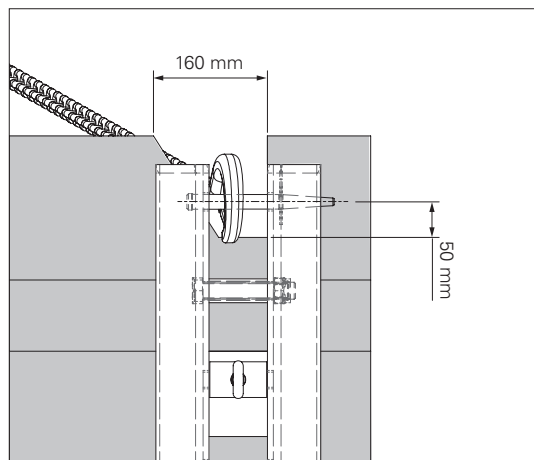

Fig. C4.01
4. Cut out enclosure panels in the area of the crane lifting gear in order to prevent any damage when lifting. (Fig. C4.01)